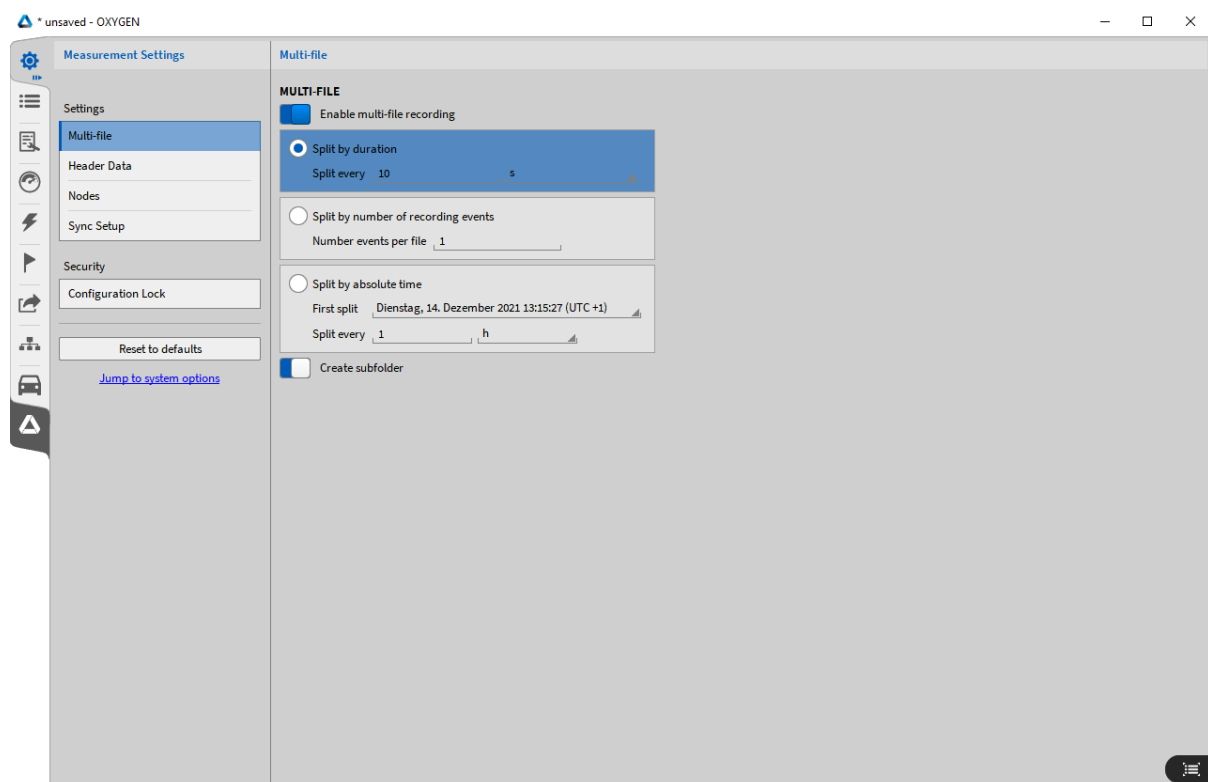

Fig. 5.5: Multi-File recording settings
To deactivate the creation of a subfolder for multi-files, deactivate the slider in the multi-file settings (see Fig. 5.5). A separate multi-file counter (00x) is used if the individual file names are identical. With the optional text *File Start* in the *Time* placeholder, the timestamp of the recording start of each multi-file recording can be used.
If split by number of recording events (see ③ in Fig. 5.5) is selected, OXYGEN creates a new data file if the defined number of recording events is reached. I.e. in the example of Fig. 5.5, a new data file will be created after the 2nd, 4th, 6th, ... recording event is terminated.
If split by absolute time (see ④ in Fig. 5.5) is selected, OXYGEN stores data automatically to a new file after every defined time interval. The OXYGEN Acquisition Time is used as the reference time. The first split can be selected using the popup calendar.